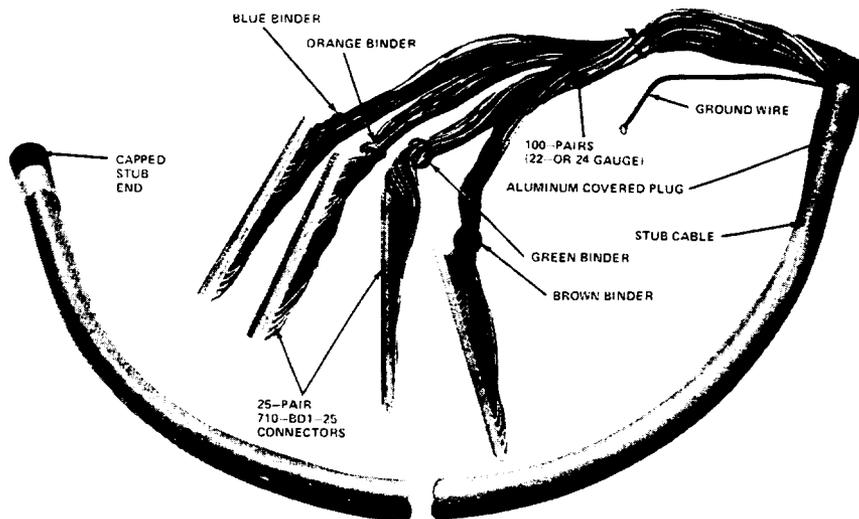

Figure 31—11-Type Connectorized Stub Cable
7.04 The 11-type connectorized stub cables (Figure 31) are used with the 307-type connector to interconnect to outside plant cables, and are ordered separately.